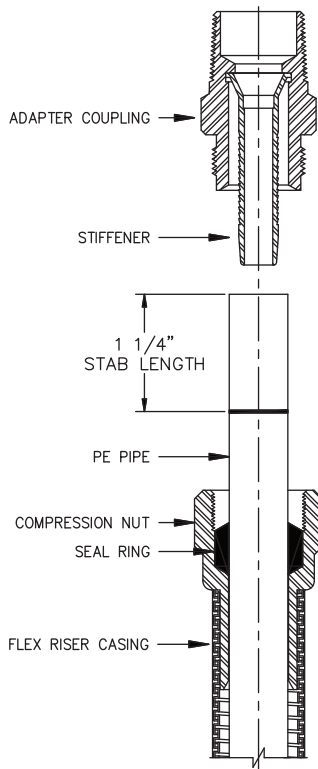

FIG. 3
5. SLIDE SEAL RING OVER PE PIPE AND INTO THE COMPRESSION NUT (FIG 3).
6. MARK 1 1/4" LG STAB LENGTH ON PE PIPE (FIG 3).